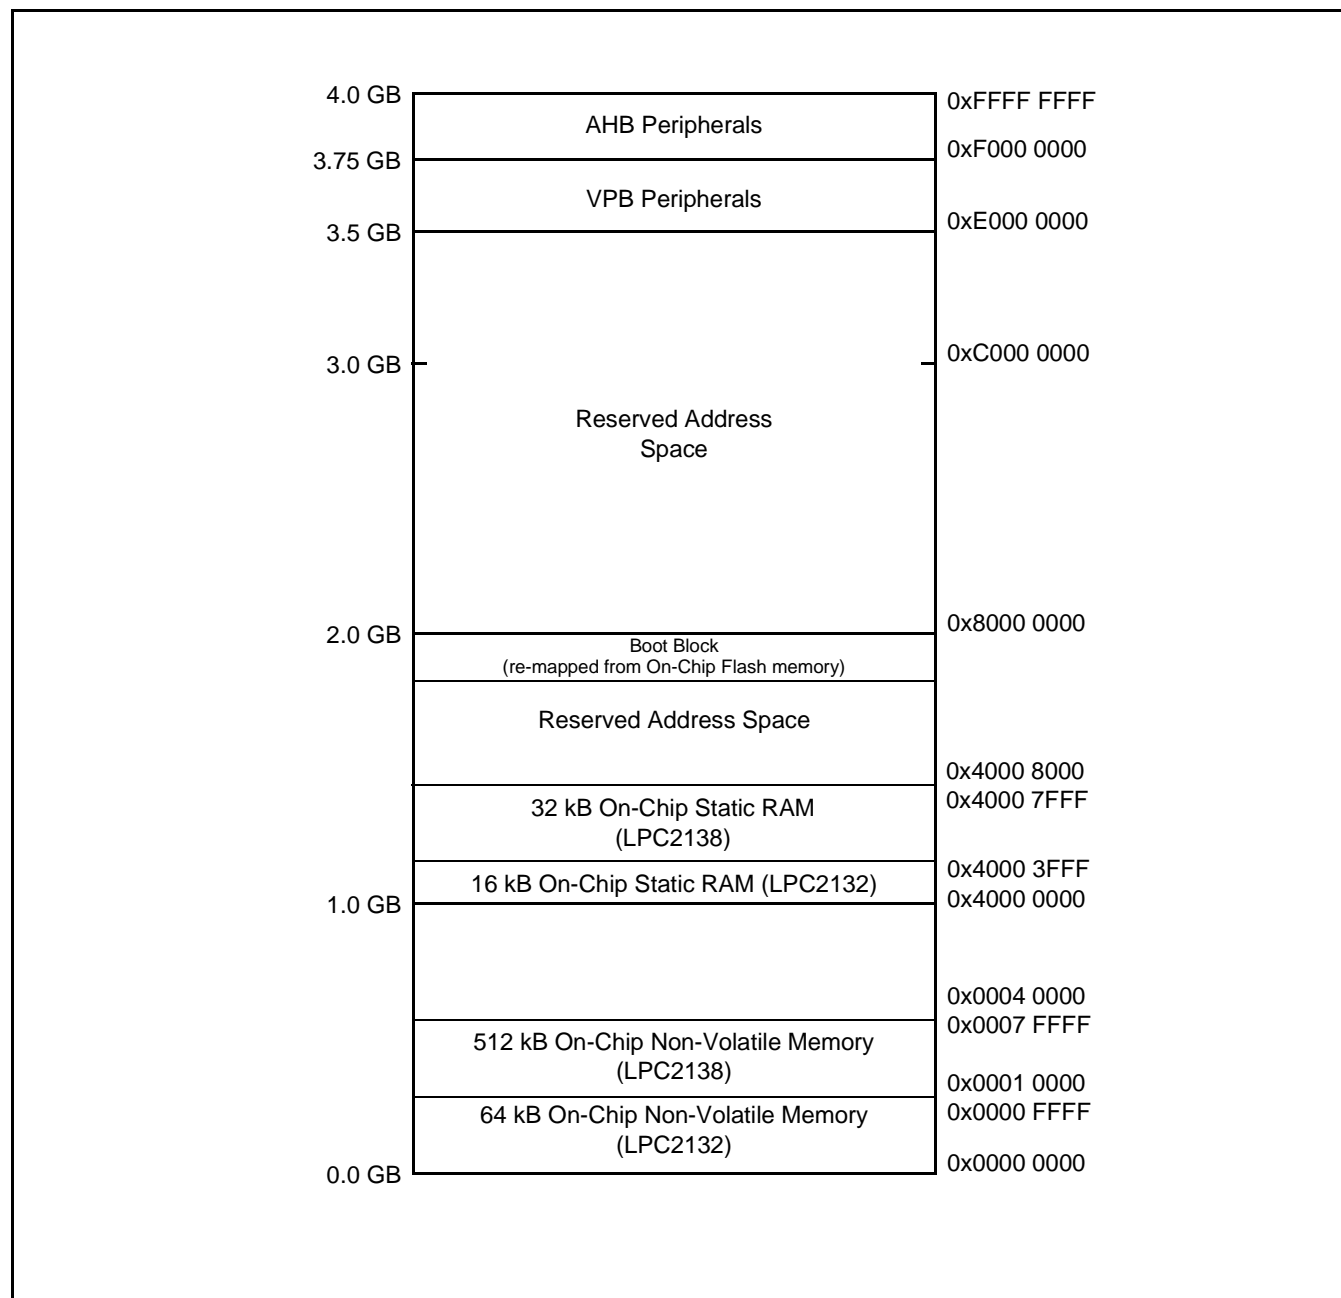
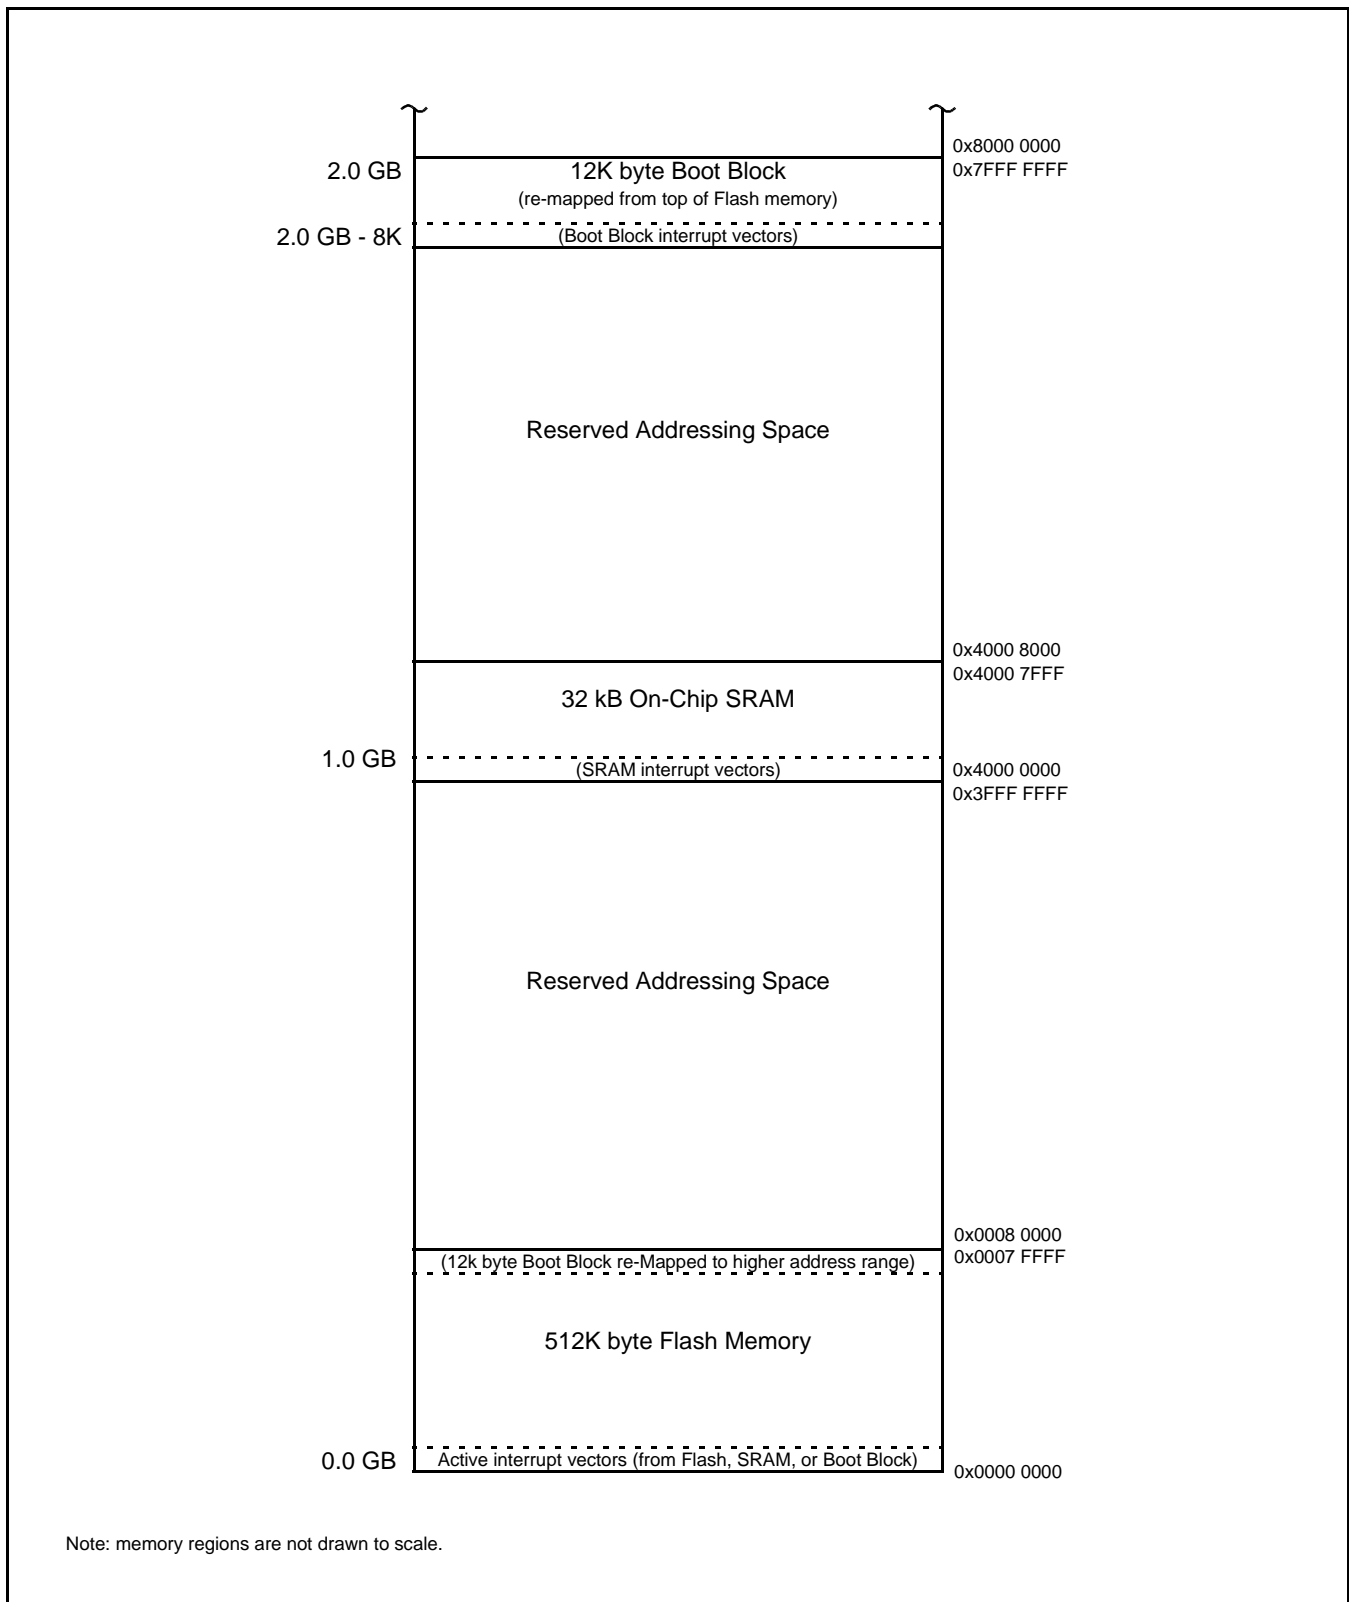

Figure 2: System Memory Map
Figure 6: Map of lower memory is showing re-mapped and re-mappable areas (512 kB Flash).
In order to allow for compatibility with future derivatives, the entire Boot Block is mapped to the top of the on-chip memory space. In this manner, the use of larger or smaller flash modules will not require changing the location of the Boot Block (which would require changing the Boot Loader code itself) or changing the mapping of the Boot Block interrupt vectors. Memory spaces other than the interrupt vectors remain in fixed locations. Figure 6 shows the on-chip memory mapping in the modes defined above.
- Address space between On-Chip Non-Volatile Memory and On-Chip SRAM, labelled "Reserved Addressing Space" in Figure 2 and Figure 6. For 64 kB Flash device, this is memory address range from 0x0001 0000 to 0x3FFF FFFF, while for 512 kB Flash device this range is from 0x0008 0000 to 0x3FFF FFFF.
- Address space between On-Chip Static RAM and External Memory. Labelled "Reserved Addressing Space" in Figure 2. For 16 kB SRAM device, this is memory address range from 0x4000 3FFF to 0x7FFF DFFF, while for 32 kB SRAM device this range is from 0x4000 7FFF to 0x7FFF D000. This is an address range from 0x4000 3FFF to 0x7FFF D000.